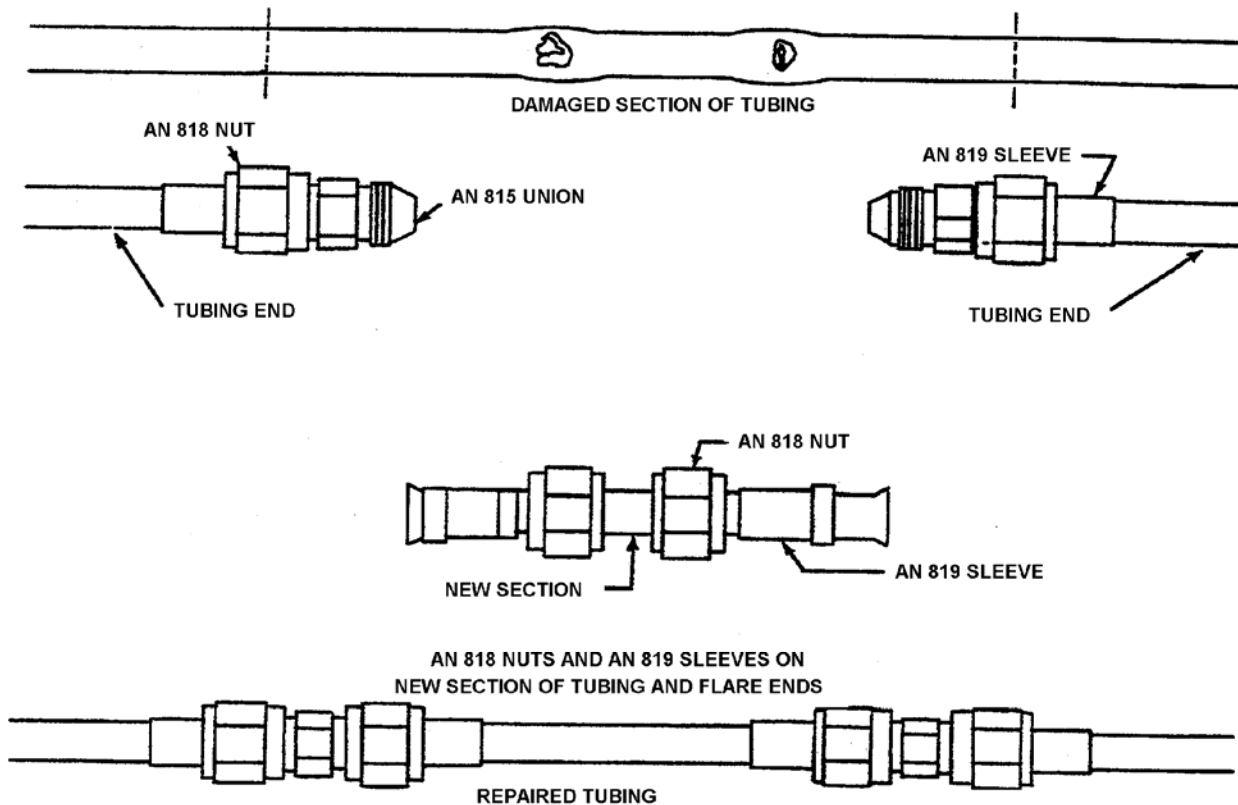

Figure 13. Temporary Tubing Repair
- d. **(N)** Position nuts AN818 and sleeves AN819 on tubing ends (Figure 13).